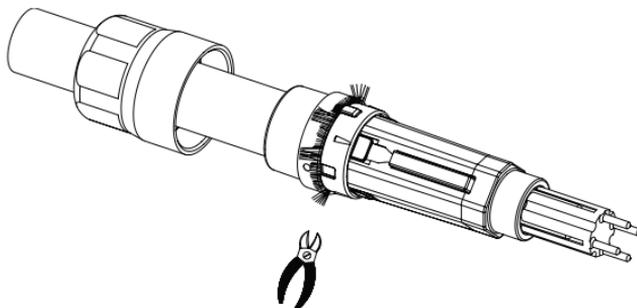

Figure XI-17
- Push the insulation body on until it clicks into place. Cut off the excess protruding shielding braid (Figure XI-17).